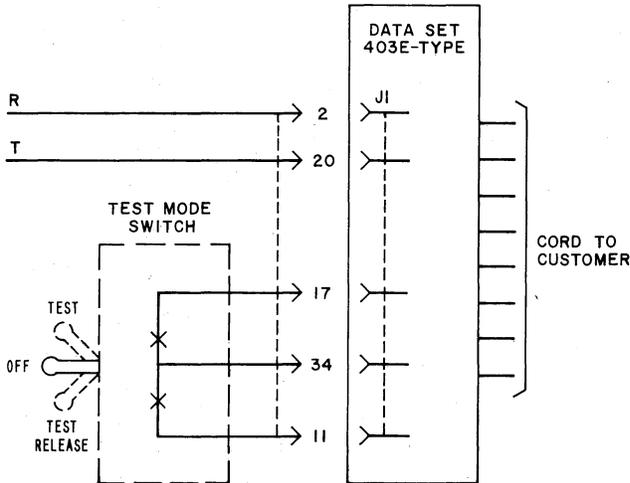

Fig. 5—Data Set 403E-Type Test Key for Dry Line Operation
(2) **Test Mode:** To provide for testing, the data set must be equipped with an external test mode switch, as shown in Fig. 5. To enter the test mode, momentarily operate the test mode switch to TEST position. When the switch is operated to TEST, test tones are transmitted to the data test center immediately; therefore, the test center should be prepared to receive them. To release the data set from the test mode, momentarily operate the test mode switch to TEST RELEASE position.